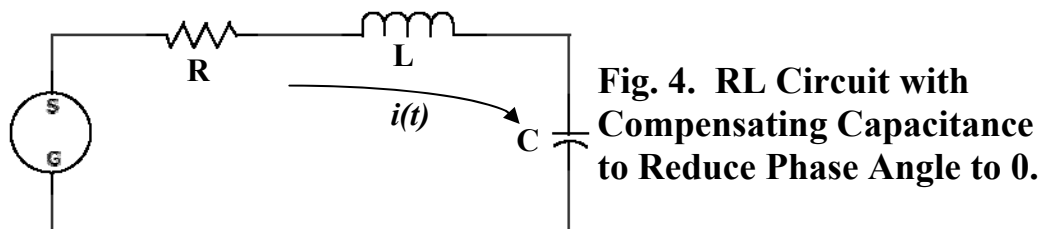

Fig. 4. RL Circuit with Compensating Capacitance to Reduce Phase Angle to 0.
- 3.3.6. For example, paralleling three 1- μF capacitors = 3 μF ; 5 μF results from two series 10 μF capacitors. In Fig. 4, a correctly chosen capacitor could bring the power factor to 1 ($\theta = 0$).